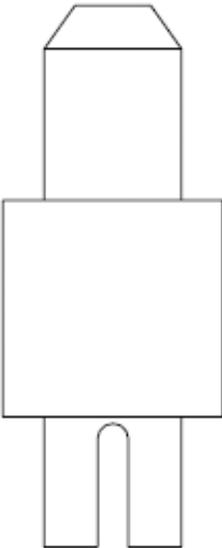

Figure1: Pallet Stacking Tool
- 2.0 Ensure that there are approved pallet stacking tools available for uploading as shown in Attachment 1, Figure 1.